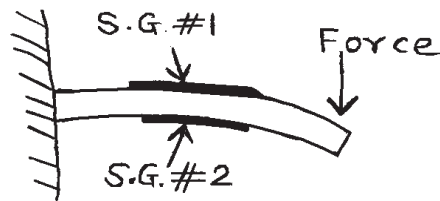

Fig. No. 1
- a) Write the effect in resistance value of strain gauges in the following Fig. No. 1.